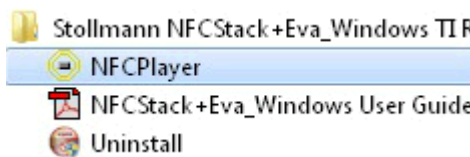

Figure 21.
3. Execute the NFCPlayer by navigating to the "Stollmann NFCStack+Eva_Windows TI R6.1.153.5" folder (should be in the "Program Files" directory), and double click the NFCPlayer Icon as shown in Figure 21.